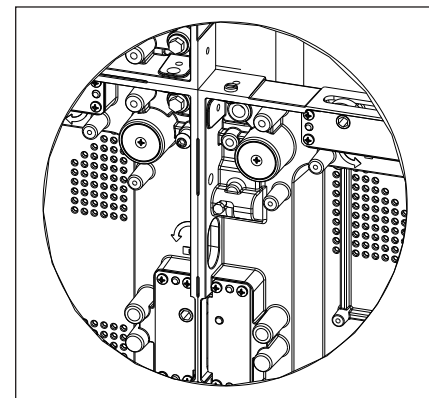

Figure 15: Engage Alignment Pin
- Release the side alignment pins at connection and allow the pins to slide into the recesses of the other panel. Refer to **Figure 15**.